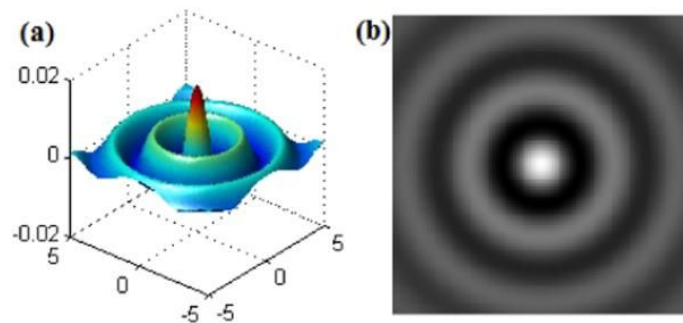

Figure 8: *Images depicting the focal point transparency of focal point in phase microscopes*
- Figure 8: www.ncbi.nlm.nih.gov/pmc/articles/PMC3372640/